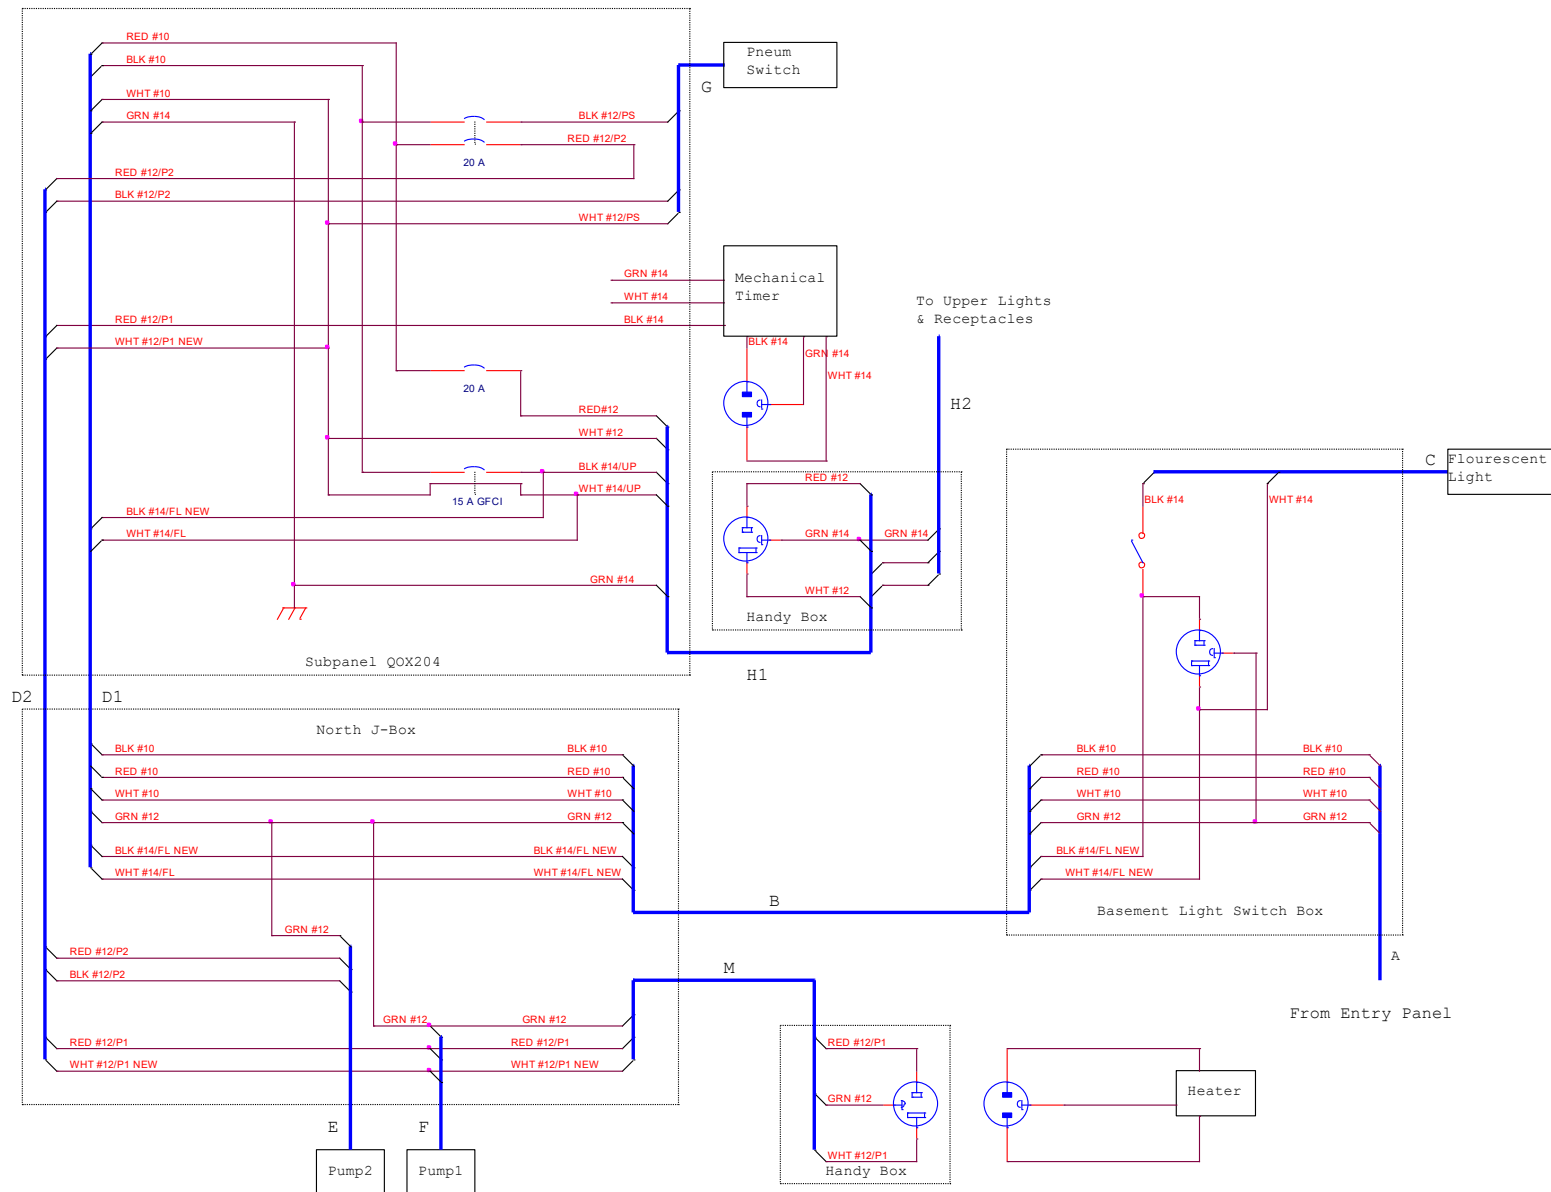
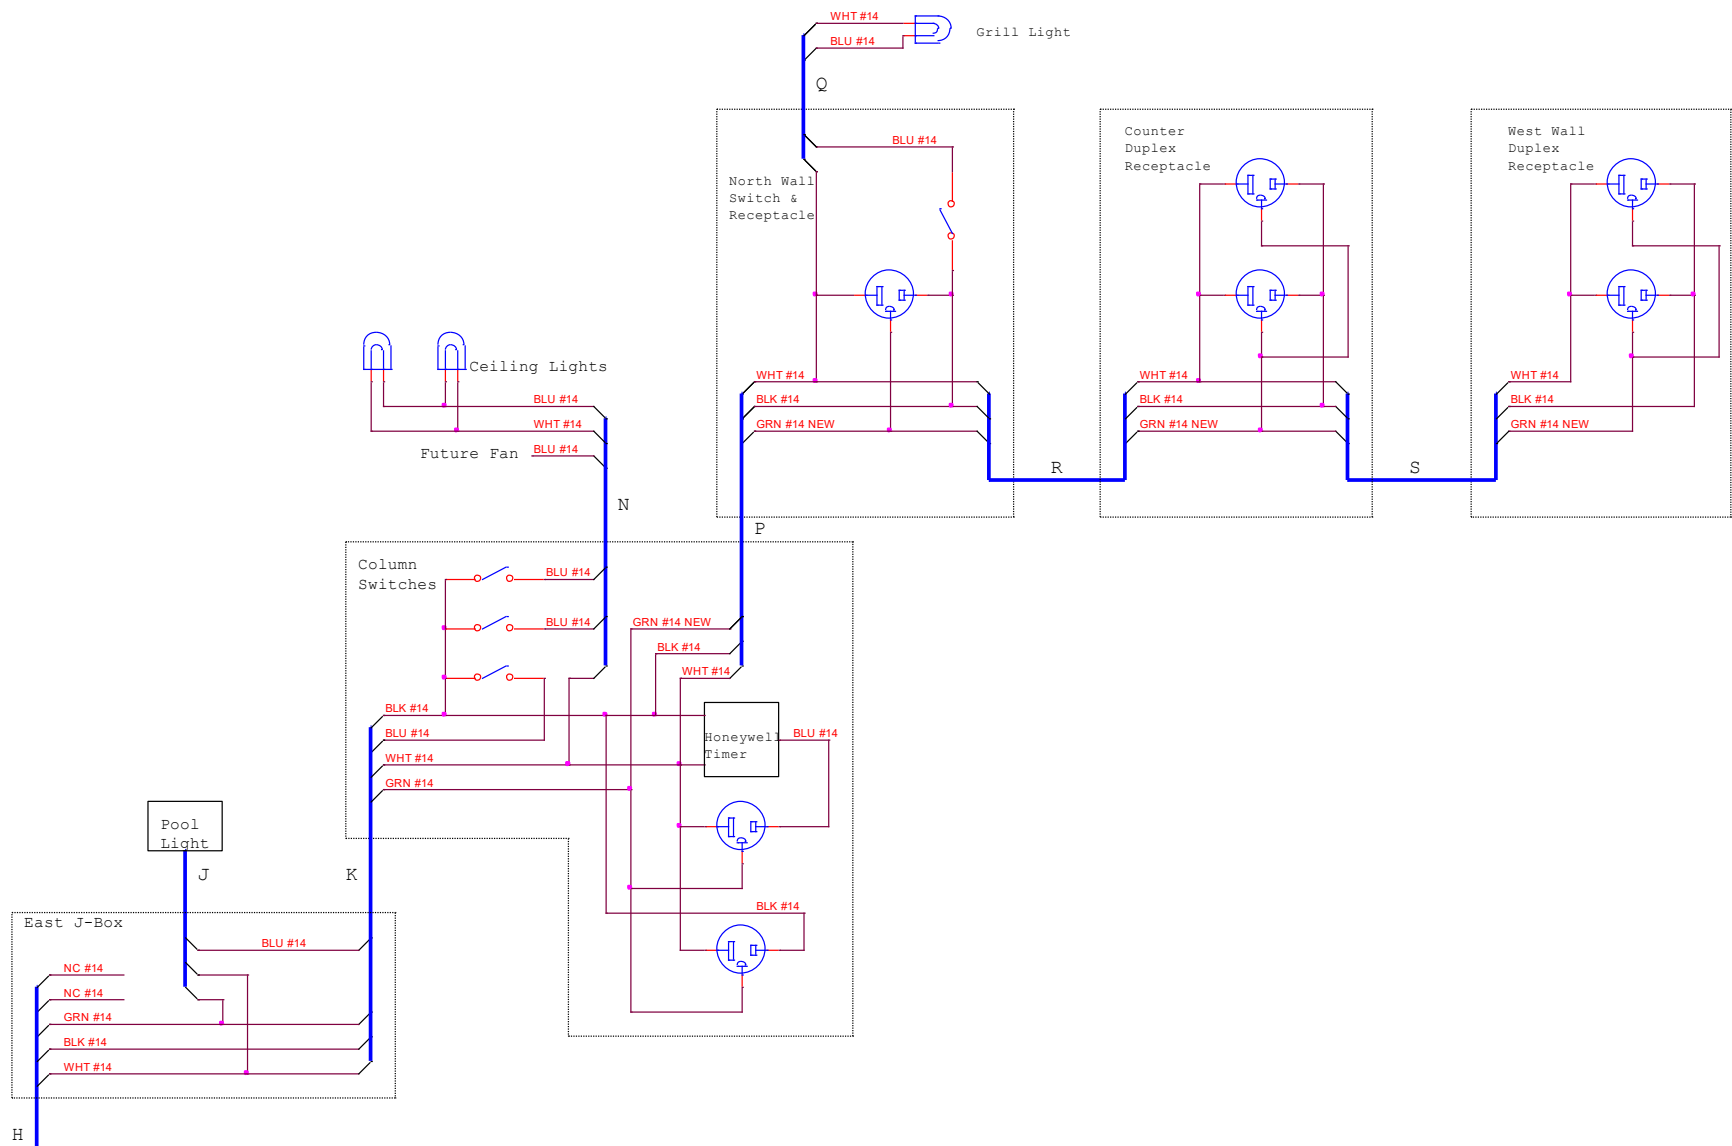

Figure 9-7 Pool Lower Level New Wiring
Figure 9-8 Pool Upper Level New Wiring
11. Rewire according to the diagrams shown in Figure 9-7 and Figure 9-8.